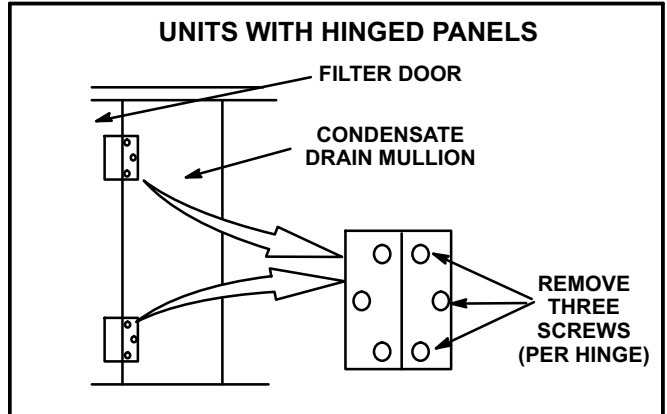

FIGURE 6
2- Remove six screws from filter access door. Refer to figure 6.
- 2- Remove six screws from filter access door. Refer to figure 6.